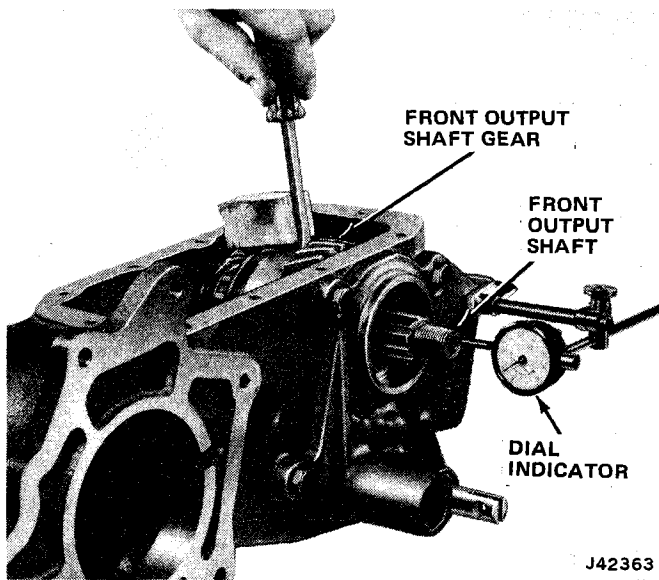

Fig. 2D-14 Checking Front Output Shaft End Play
(5) Install front output shaft shift rail poppet ball and spring.
(6) Compress ball and spring and install front output shaft rod part way into case.
(7) Install and position front output shaft shift fork so setscrew offset faces front of case.
(8) Insert front output shaft shift rod through shift fork.
(9) Align setscrew holes in fork and rod and install setscrew. Tighten setscrew to 14 foot-pounds torque.
(10) Install front output shaft front bearing, bearing spacer, front output shaft sliding gear, and front output shaft gear. Be sure shift fork groove in sliding gear faces rear of case.
(11) Install front output shaft through gears, spacer, and bearing.
(12) Support case on wood blocks and drive front output shaft into front housing using brass drift and hammer. Be sure bearing is seated against shoulder on front output shaft.
(13) Install front output shaft rear bearing cup using wood block and hammer.
(14) Install rear bearing, cover plate, and shims. Tighten cover plate bolts to 30 foot-pounds torque.
(15) Check front output shaft end play as follows (fig. 2D-14):